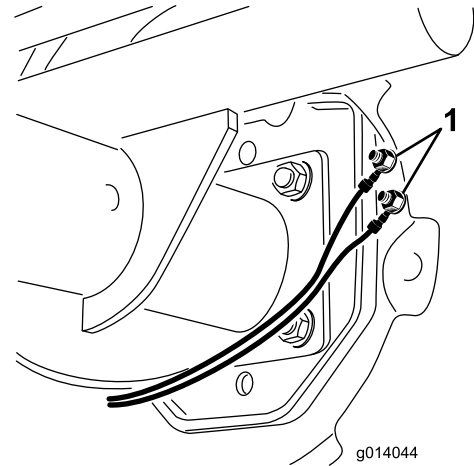

Figure 5
30. Connect the wire harness ring terminals to the brake shoe studs with 2 nuts (Figure 5). The black goes to